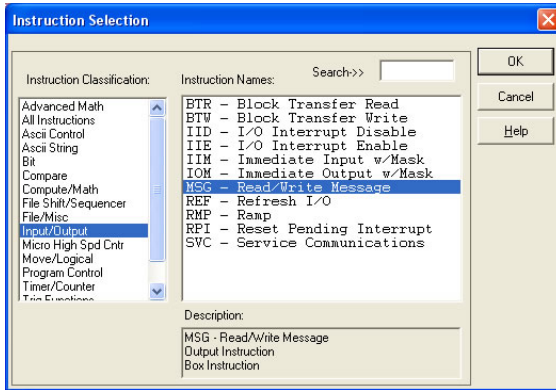

Figure 110: MSG Instruction Selection
- Select the “MSG” instruction from the “Input/Output” classification, then click OK. Refer to Figure 110.